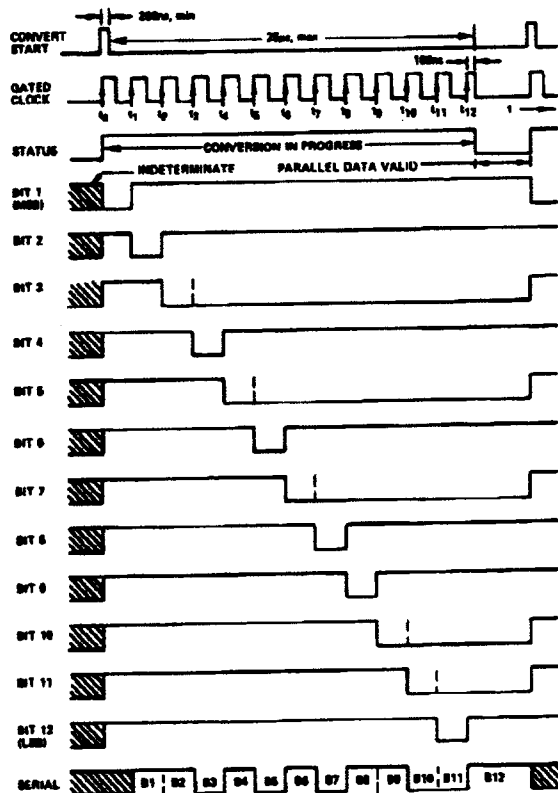

Figure 2. Timing Diagram (Binary Code 110101011001)
The timing diagram is shown in Figure 2. Receipt of a CONVERT START signal sets the STATUS flag, indicating conversion in progress. This, in turn, removes the inhibit applied to the gated clock, permitting it to run through 13 cycles. All SAR parallel bit and STATUS flip-flops are initialized on the leading edge, and the gated clock inhibit signal is removed on the trail-
**Short Cycle Input:** A Short Cycle input (Pin 14) permits the timing cycle shown in Figure 2 to be terminated after any number of desired bits have been converted, permitting somewhat shorter conversion times in applications not requiring full 12-bit resolution. When 12-bit resolution is required, Pin 14 is connected to +5 V (Pin 16). When 10-bit resolution is desired, Pin 14 is connected to Bit 11 output Pin 2. The conversion cycle then terminates, and the STATUS flag resets after the Bit 10 decision ( $t_{10} + 100 \text{ ns}$  in timing diagram of Figure 2). Short cycle pin connections and associated maximum 12-, 10- and 8-bit conversion times are summarized in Table III.
| Connect Short Cycle Pin 14 to Pin: | Bits | Resolution (% FSR) | Maximum Conversion Time (μs) | Status Flag Reset at: (Figure 2) |
Serial data coding is binary for unipolar input ranges and offset binary for bipolar input ranges. Serial output is by bit (MSB first, LSB last) in NRZ (nonreturn-to-zero) format. Serial and parallel data outputs change state on positive-going clock edges. Serial data is guaranteed valid on all negative-going clock edges, permitting serial data to be clocked directly into a receiving register on these edges. There are 13 negative-going clock edges in the complete 12-bit conversion cycle, as shown in Figure 2. The first edge shifts an invalid bit into the register, which is shifted out on the 13th negative-going clock edge. All serial data bits will have been correctly transferred and be in the receiving shift register locations at the completion of the conversion period.